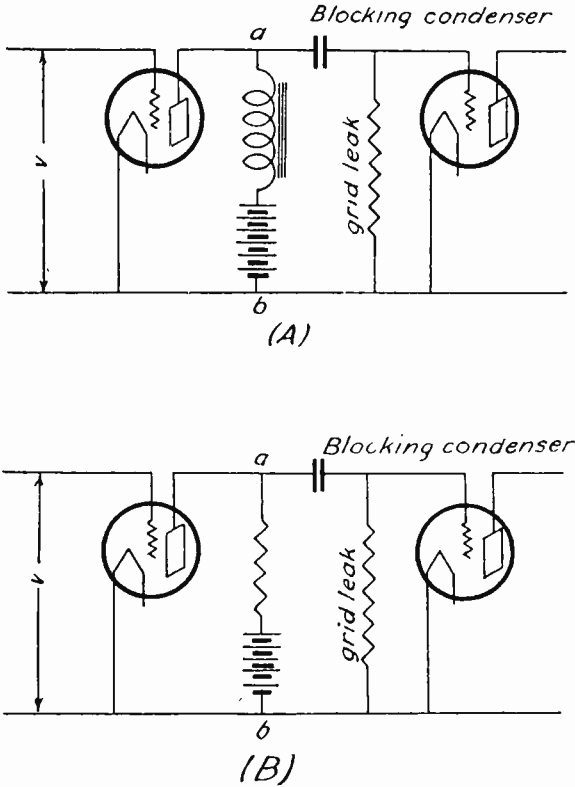
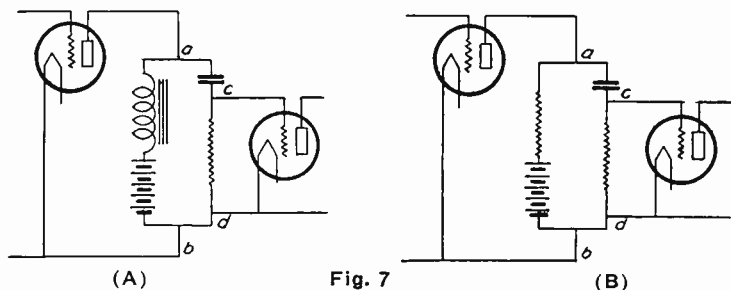

Fig. 5
Fig. 7
fier. The simple circuit of the impedance coupled amplifier is shown in Fig. 5-(A), and in Fig. 5-(B) the resistance-capacity coupled amplifier, so that you can see the difference between the two systems.
In other words, if we have a certain voltage "v," as in Fig. 5, impressed on the input of the tube, there will be a certain voltage between the points "a" and "b" in the plate circuit of that tube. This will be the same thing, whether the frequency of the impressed voltage "v" is 50 or 5,000 cycles per second. This is because the resistance does not change with the frequency.
But there are difficulties encountered in using resistances in the plate circuits of the tubes. In order to operate the electron tubes properly it is necessary to have a certain voltage on the plates of these tubes. Now you will see, if you look again at Fig. 5-(B), that the "B" battery is connected in series with this resistance, so that the electrons flow from the filament to the plate through the resistance, then from the battery back to the filament. In order to obtain a considerable amount of amplification in each stage it is necessary to use a large resistance in the plate circuits, perhaps 100,000 ohms. This is the value of the resistance often used.
Now we have said before, that when an alternating current is passed through a coil of wire, a varying magnetic field is created which cuts back on the turns of wire, and *induces* a voltage across the terminals of the coil. What we do then, in the case of the impedance coupled amplifier, is to take this voltage across the terminals of the coil, at the points "a" and "b" in Fig. 5-(A), and impress it on the input of the next tube, through the blocking condenser. You remember in the case of the resistance coupled amplifier, we had to place this blocking condenser in series with the grid in order to keep the high voltage of the "B" battery away from the grid; then, after
The varying voltage, which is due to the signal put into the amplifier and continuously *varies* in strength, will produce a relatively large voltage between the points "a" and "b" of Fig. 5-(A). You see, we have to draw a very distinct line between varying and constant currents. A constant current has very little effect on an impedance coil, and this is due to the small resistance of the coil. The smaller this is, the better the coil. But the varying current has a large effect on the impedance coil, and furthermore, this effect is different at every frequency. The lower the frequency the smaller is the effect, and the higher the frequency the greater is the effect.
The other effect which we mentioned is a little more complicated and we must study it carefully. Suppose we look at Fig. 7. The circuit diagrams in this figure are the same as the circuit diagrams in Fig. 5, only they have been drawn a
little differently. You can see that they are similar by comparing the two sets of diagrams, line for line. The same points "a" and "b" have been marked on these diagrams as were marked on Fig. 5.
Now you remember we had a certain voltage between the points "a" and "b" due to the signal voltage. This voltage is across the terminals of the plate resistance or the impedance coil, depending upon which type of amplifier we are using. As you can see in the diagrams of Fig. 7, this same voltage is at the same time across the blocking condenser and the grid resistance, since these two are connected to the same points. But also notice that the second tube is only connected across the grid resistance, and we want the voltage input to this tube to be as great as possible. It is clear that part of the voltage between the points "a" and "b" is used up in the blocking condenser, and this cuts down the amount of voltage that we can get on the input of the second tube.